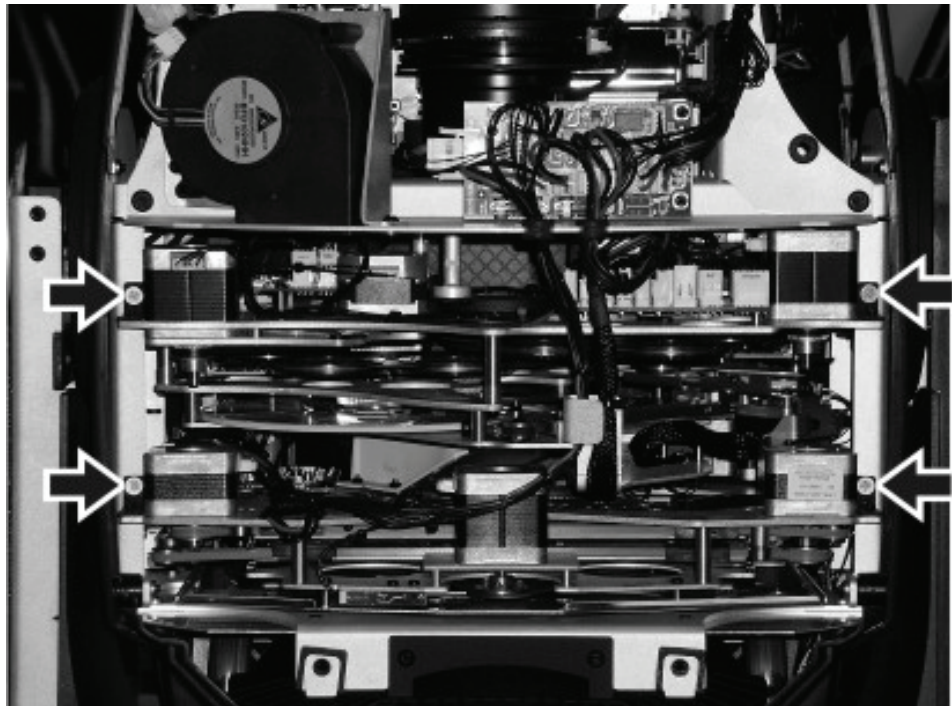

Figure 27: Module retaining screws
3. Modules are released for removal by disconnecting their multi-connectors and removing their retaining screws (arrowed in Figure 27). Take great care not to damage wiring during module removal or re-installation.